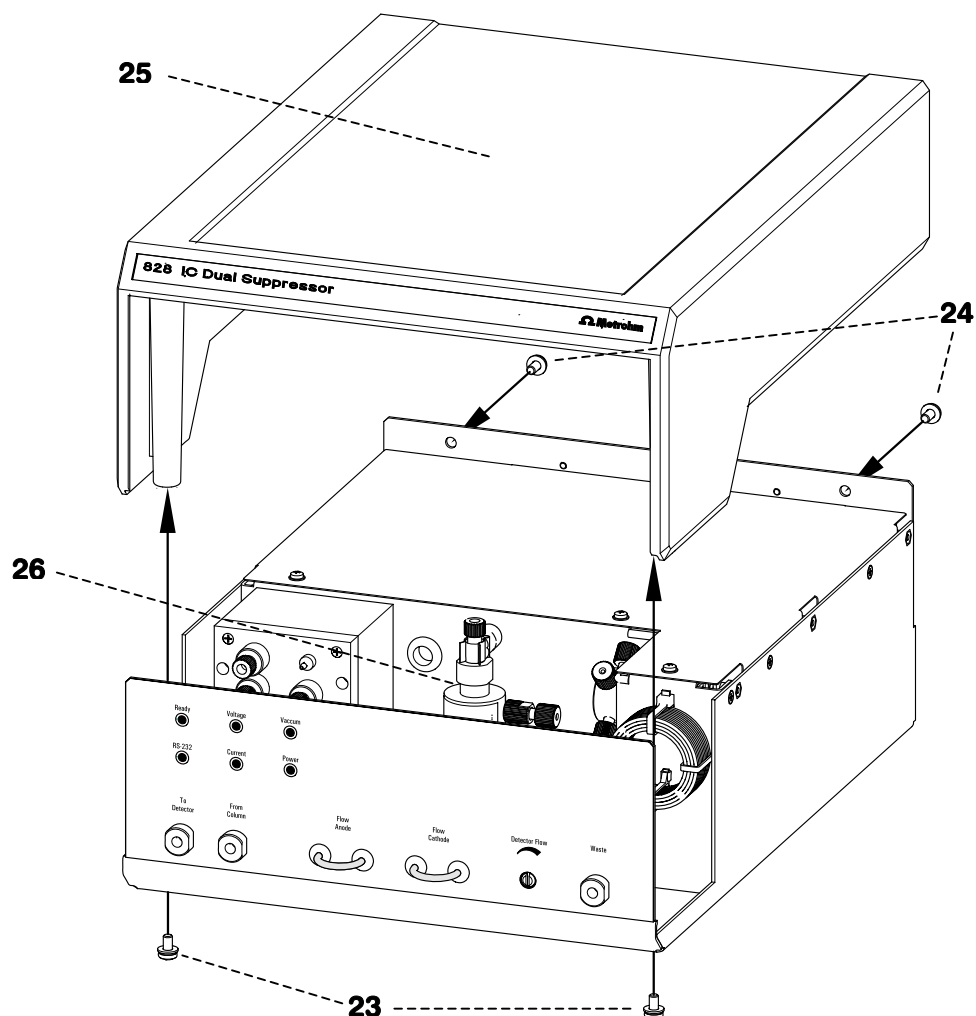

Figure 8: Opening the instrument
- Loosen the two front **housing screws 23** on the base of the IC Dual Suppressor, see Figure 8.